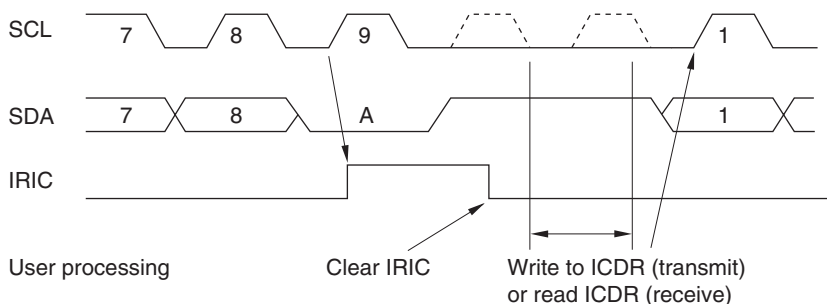

**Figure 18.18 Example of Slave Transmit Mode Operation Timing
- (1) Set the ICE bit in ICCR to 1. Set the MLS bit in ICMR and the MST and TRS bits in ICCR according to the operating mode.
- (2) When the slave address matches in the first frame following detection of the start condition, the slave device drives SDA low at the 9th clock pulse and returns an acknowledge signal. At the same time, the IRIC flag in ICCR is set to 1. If the IEIC bit in ICCR has been set to 1, an interrupt request is sent to the CPU. If the 8th data bit (R/W) is 1, the TRS bit in ICCR is set to 1, and the mode changes to slave transmit mode automatically. The TDRF flag is set to 1. The slave device drives SCL low from the fall of the transmit clock until ICDR data is written.
- (3) After clearing the IRIC flag to 0, write data to ICDR. The TDRE internal flag is cleared to 0. The written data is transferred to ICDRS, and the TDRE internal flag and the IRIC and IRTR flags are set to 1 again. After clearing the IRIC flag to 0, write the next data to ICDR. The slave device sequentially sends the data written into ICDR in accordance with the clock output by the master device at the timing shown in figure 18.18.
- (4) When one frame of data has been transmitted, the IRIC flag in ICCR is set to 1 at the rise of the 9th transmit clock pulse. If the TDRE internal flag has been set to 1, this slave device drives SCL low from the fall of the transmit clock until data is written to ICDR. The master device drives SDA low at the 9th clock pulse, and returns an acknowledge signal. As this acknowledge signal is stored in the ACKB bit in ICSR, this bit can be used to determine whether the transfer operation was performed normally. When the TDRE internal flag is 0, the data written into ICDR is transferred to ICDRS, transmission is started, and the TDRE internal flag and the IRIC and IRTR flags are set to 1 again.
- (5) To continue transmission, clear the IRIC flag to 0, then write the next data to be transmitted into ICDR. The TDRE flag is cleared to 0.